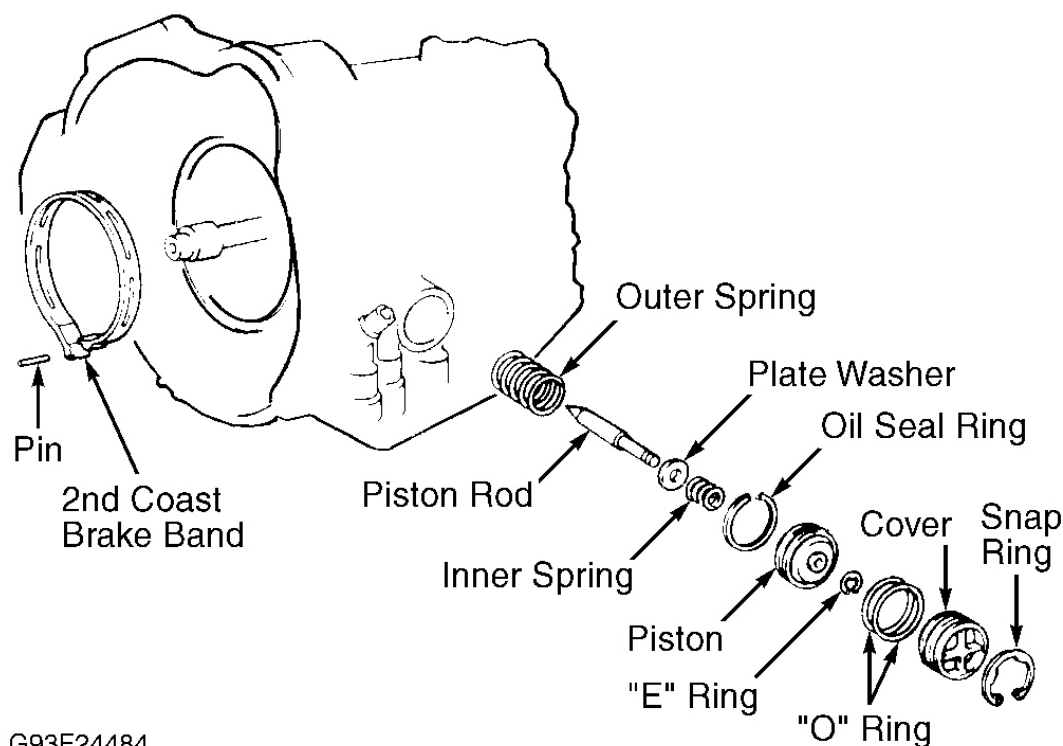

Fig. 34: Exploded View Of 2nd Coast Brake
3. Remove oil seal ring from piston. Remove "E" ring while pushing piston with needle-nose pliers. Remove spring, washer and piston rod. See **Fig. 34**.
Install washer and spring to piston rod. Install "E" ring. Install oil seal ring. **DO NOT** expand oil seal ring ends more than necessary for installation. See **Fig. 34**.